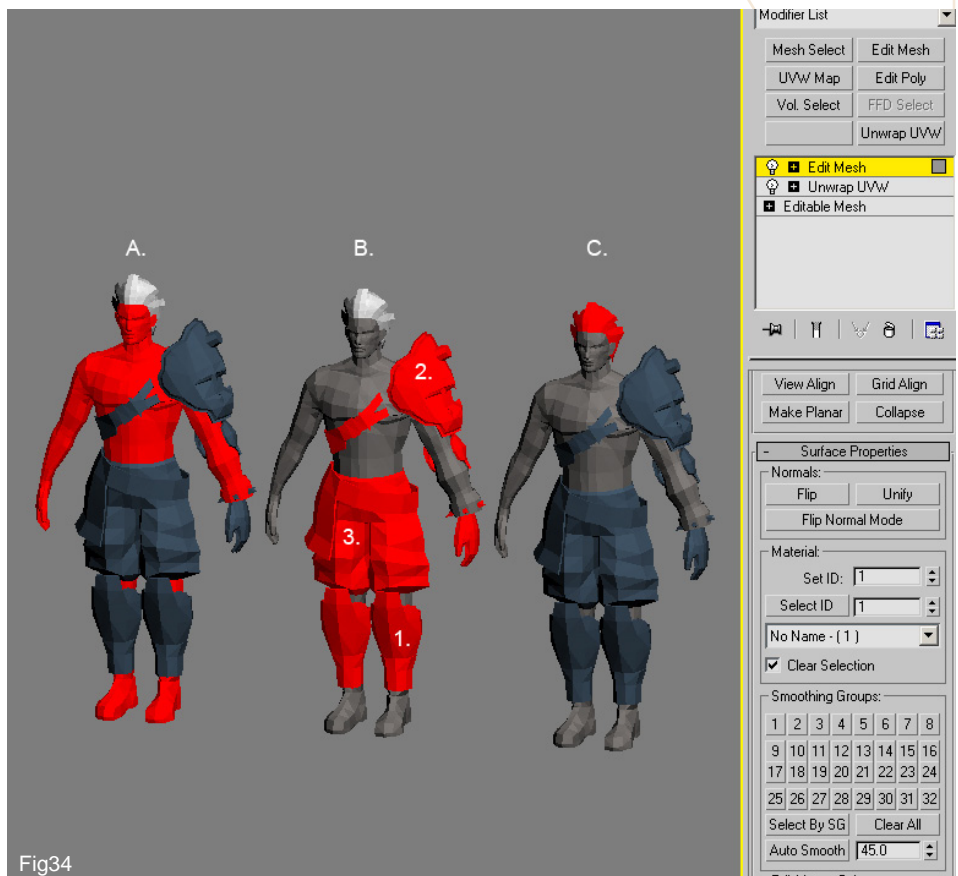

Fig34
34. In Fig 34 you can see that the three